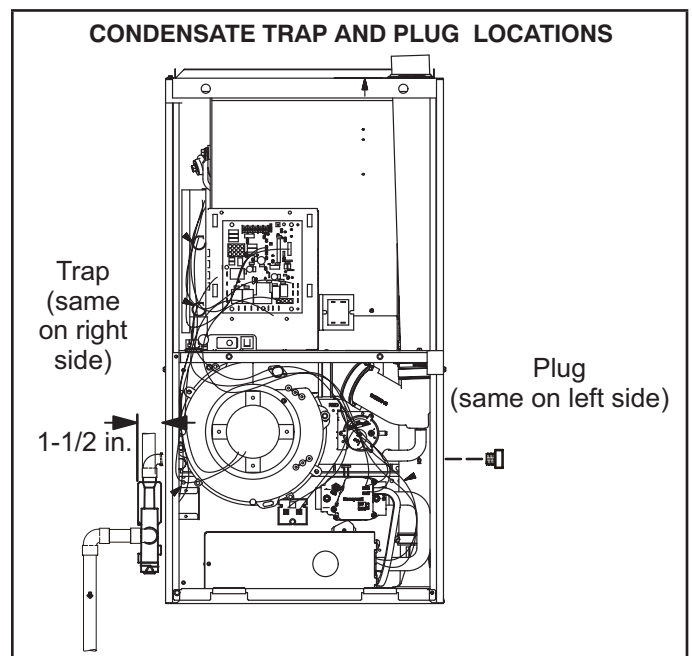
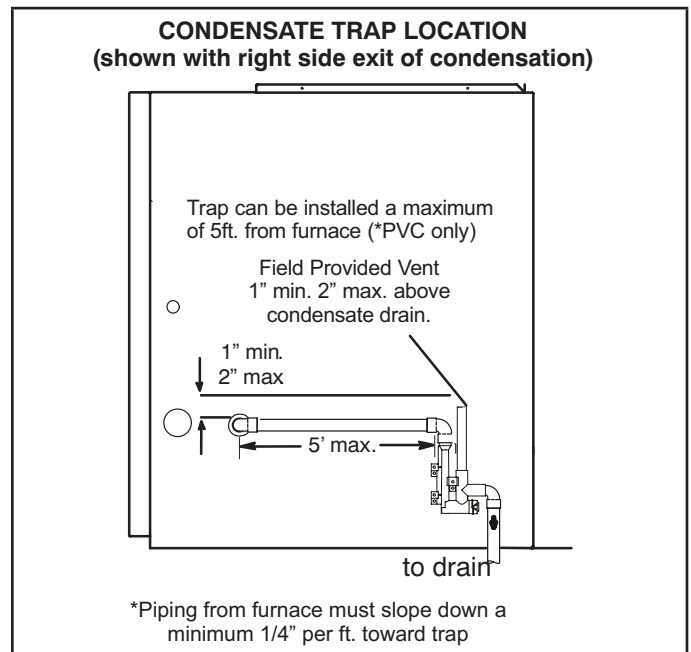

FIGURE 48
FIGURE 50
This unit is designed for either right- or left-side exit of condensate piping. Refer to FIGURE 48 and FIGURE 50 for condensate trap locations.
- 2 - Use a large flat head screw driver or a 1/2" drive socket extension and remove plug (figure 48) from the cold end header box at the appropriate location on the side of the unit. Install provided 3/4 NPT street elbow fitting into cold end header box. Use Teflon tape or appropriate pipe dope.